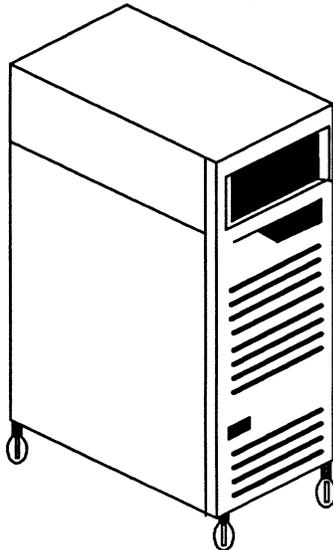

Figure 2-12. Model 31 CADDStation Deskside Module, Front View
1. Grasp the deskside module front cover and gently pull it toward you. See Figure 2-12.
Figure 2-12 shows a front and side view of the Model 31 CADDStation Deskside Module.